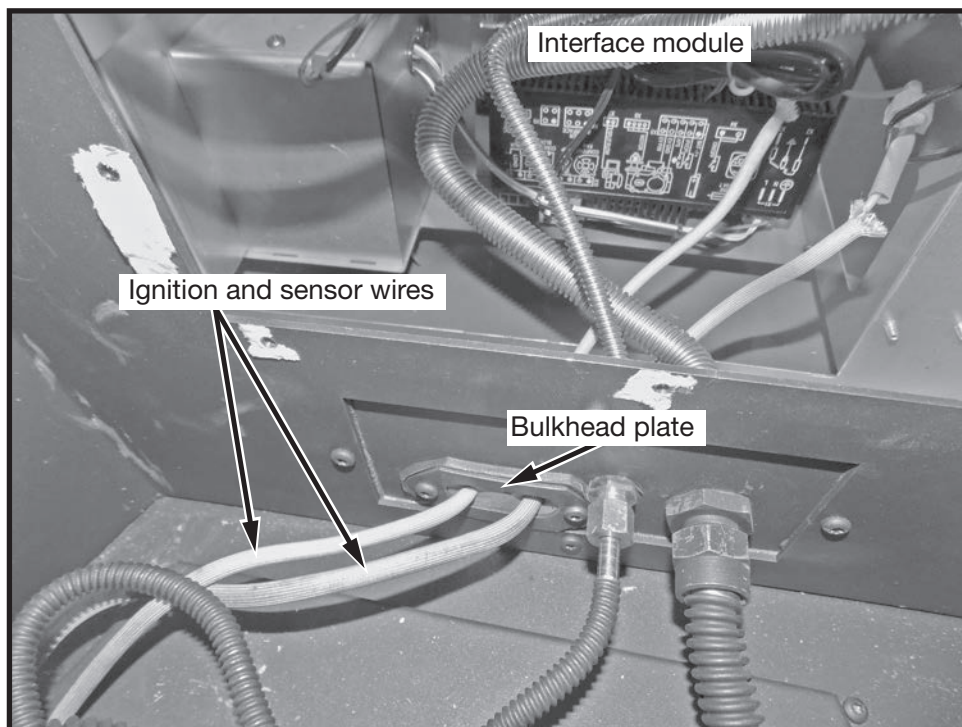

Figure 7: Ignition and sensor wires routing.
5. Feed the ignition and sensor wires through the bulkhead plate to the interface module. Tuck the ignition and sensor wires below the supply tubes (Figure 7).